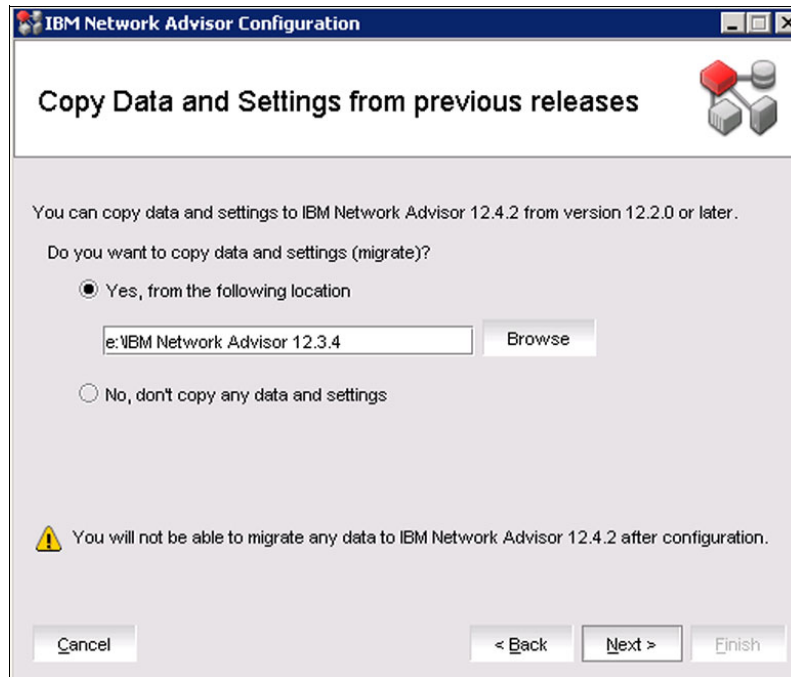

Figure 4-27 Copy Data and Settings from previous releases window
7. The Copy Data and Settings from previous releases window opens and prompts you for a copy of the data and settings from your previous installation, as shown in Figure 4-27. You must provide the folder location where the previous version was installed. This window will also show the minimum IBM Network Advisor version from where you can migrate the data from. For upgrade path information, see 4.2, “IBM Network Advisor 12.4.2 upgrade path” on page 53. Remember that it is not possible to migrate the data from a previous version after the installation completes.